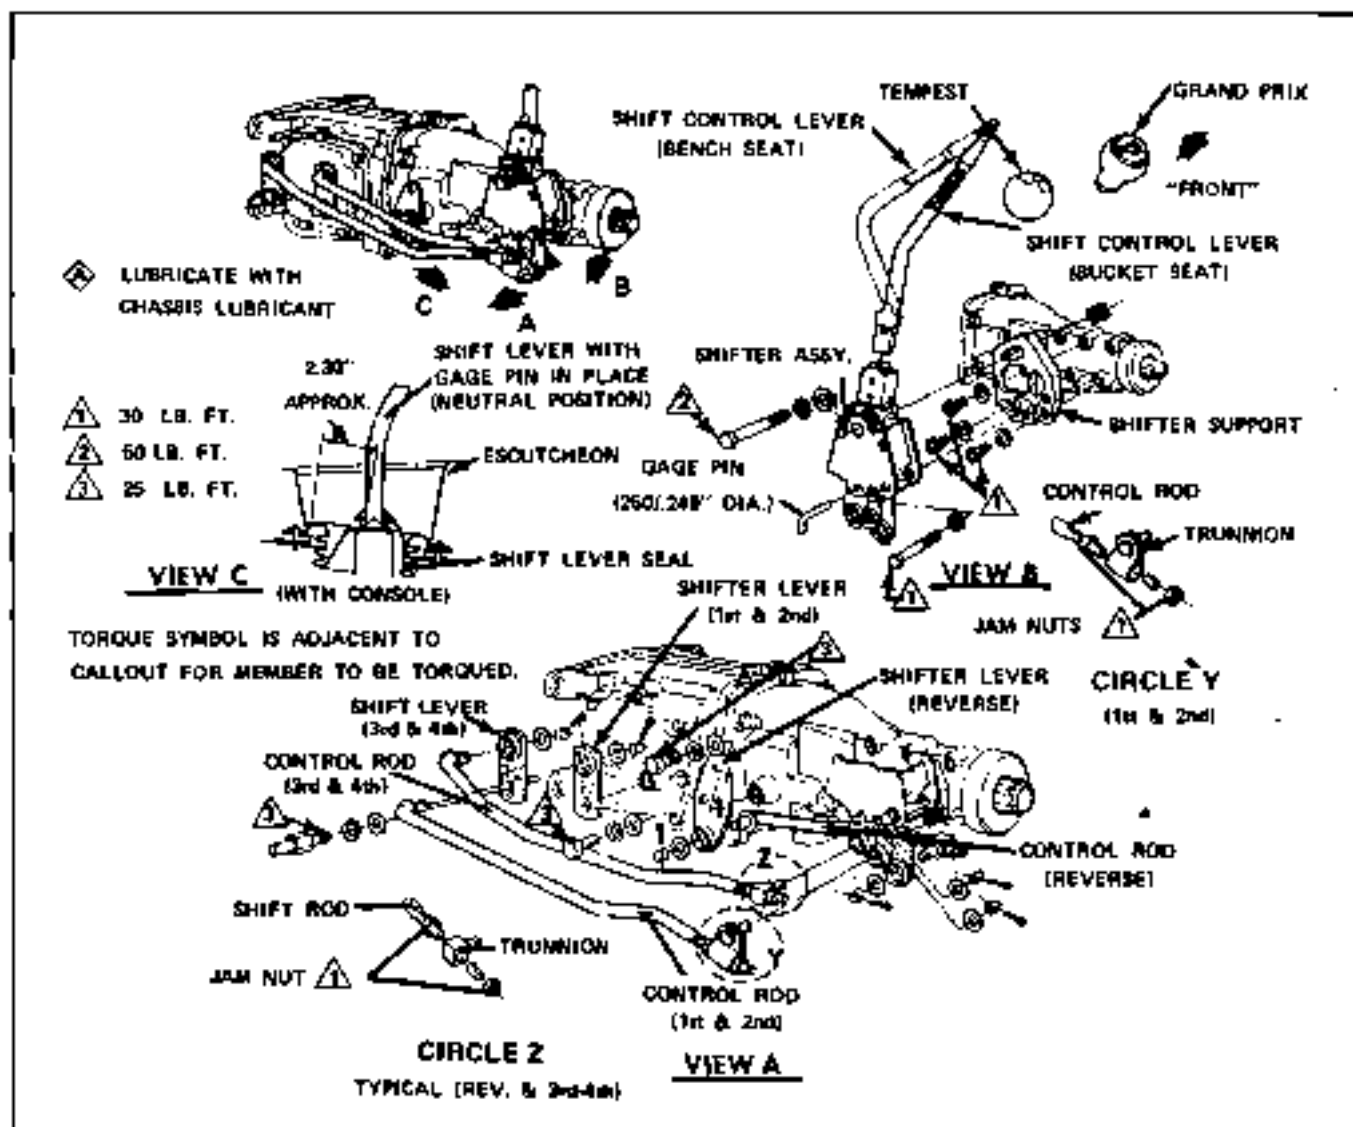

Fig. 7D-1 Tempest and Grand Prix Shift Controls
- Tempest and Grand Prix - Loosen trunnion jam nuts "X", "Y" and "Z" on transmission control rods (view "A" of Fig. 7D-1).
Firebird - Loosen trunnion jam nuts "X" and "Z" on transmission control rods (1st and 2nd and Reverse) and disconnect trunnion "Y" from its shifter assembly lever (view "A" of Fig. 7D-2).
- Insert a .250-.249" diameter gage pin into shifter assembly (view "B" of Figs. 7D-1 or 7D-2).
- If shift control lever is misaligned to its floor pan (console) opening (view "C" of Figs. 7D-1 or 7D-2):
9. Push up on gearshift control rod (Fig. 7D-3A or -3B) to take up clearance in steering column lock mechanism and tighten nut (or screw) of adjusting swivel clamp to 20 lb. ft.